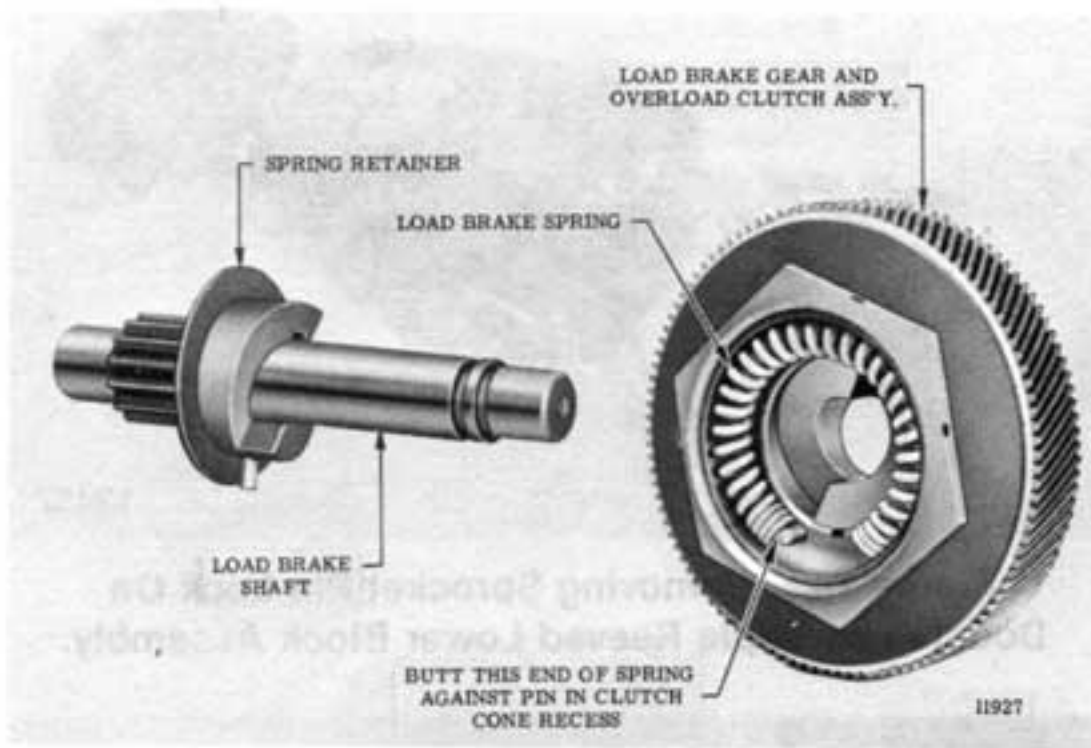

Figure 7-21. Load Brake Gear and Overload Clutch Assembly Removed from Load Brake Shaft Showing Brake Spring Installed in Clutch Cone.
- (3) Remove load brake gear and overload clutch assembly from output pinion shaft. Pull the spring from its recess in clutch cone (Figure 7-21) but do not further disassemble gear and clutch assembly. See "NOTE" below.
NOTE: Disassembly of the load brake gear and overload clutch assembly (Figure 7-21) is not recommended. Clutch pressure is preset by the factory at assembly to provide the correct torque to allow the clutch to refuse loads within a specified range (100% of rated load to 180% rated load). It is suggested whenever there is a need to repair or readjust the gear and clutch assembly that it be sent to a recognized **CM** Hoist Repair Station where adequate tools, fixtures and appropriate test equipment is available.
- (1) Before assembly, all parts should be cleaned and inspected to determine their serviceability. Replace parts that are excessively worn or damaged.
- (2) Reassemble load brake parts following a reverse procedure of the disassembly steps listed above, observing the assembly steps (3) through (6) below.
- (3) Before installing spring in its recess in center of clutch cone (Figure 7-21) apply a good grade of ball bearing grease to inside of recess. Spring must be positioned exactly as illustrated, butted against pin.